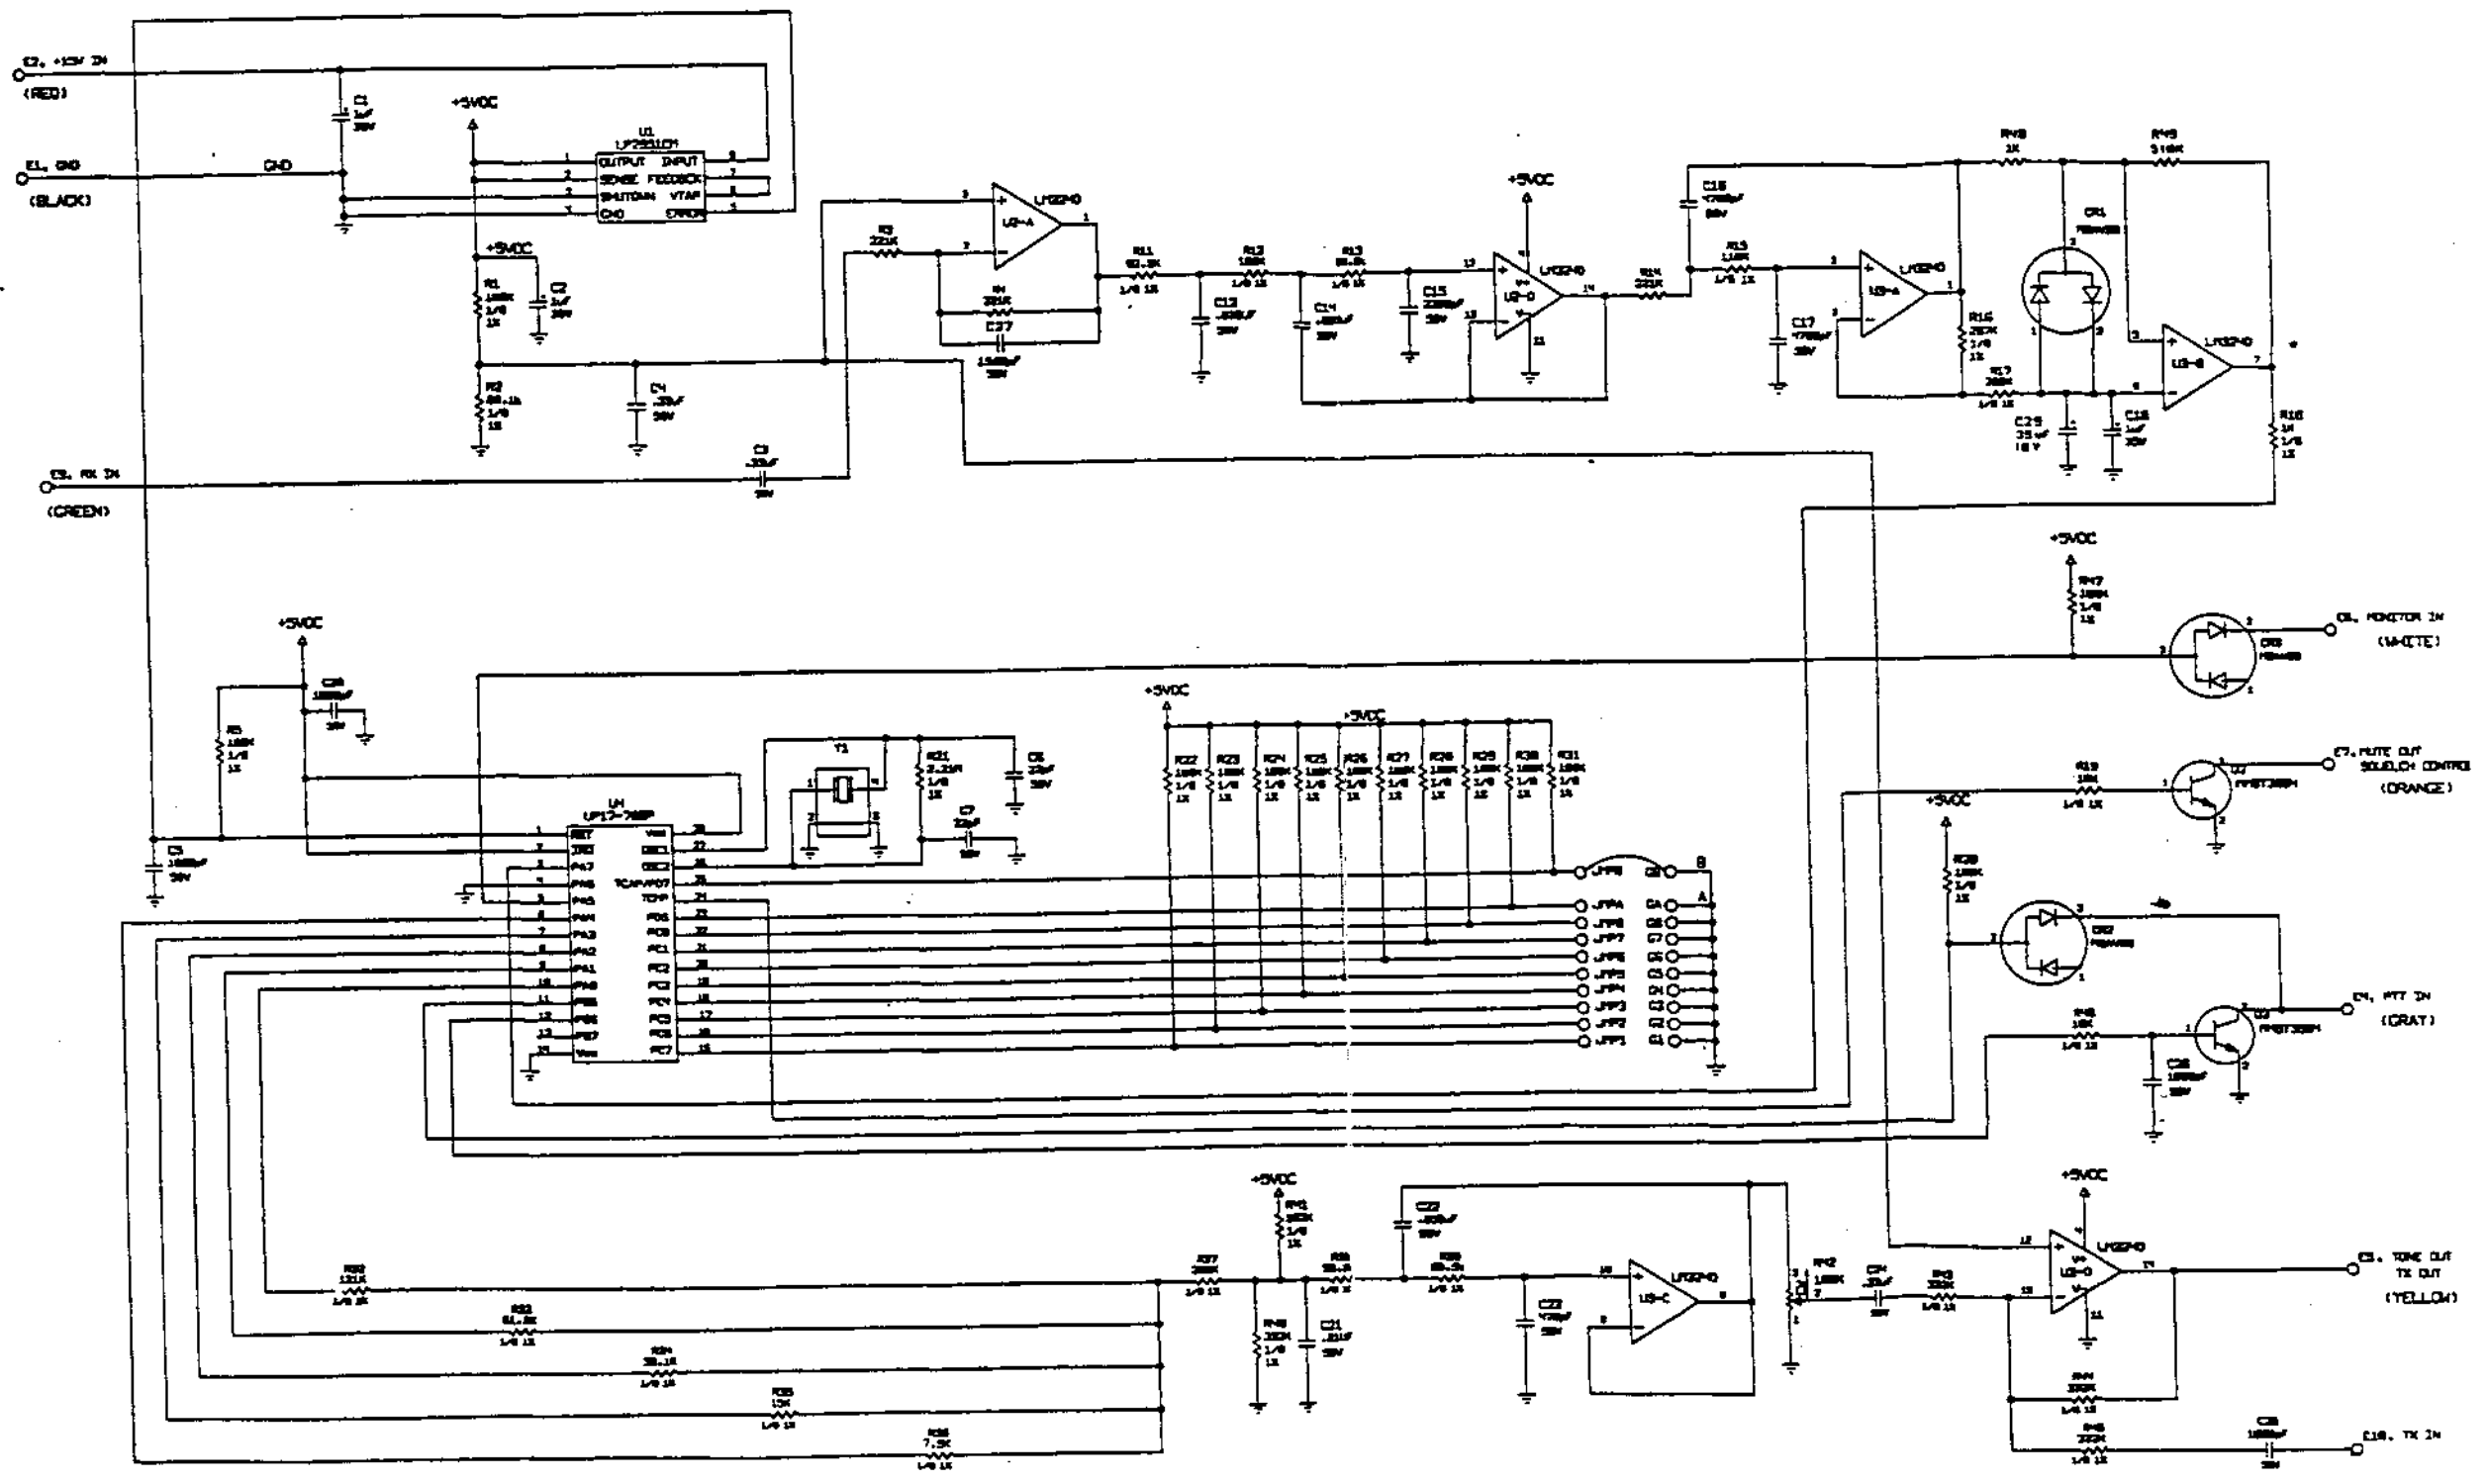

Figure 1
2. See Figure 1. Remove jumper JMPA, as shown in Figure B.